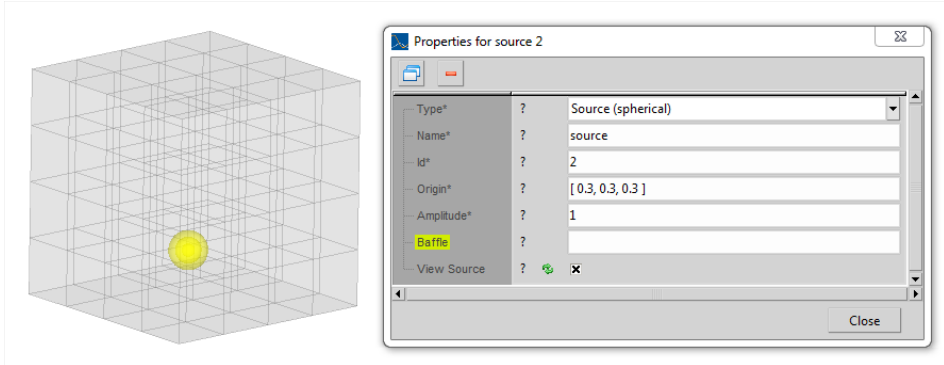

Figure 10.75: Visualization of a spherical acoustic source
- Acoustic sources, including cylindrical source, planar source and spherical source. The visualization is controlled by a tick box in the source's property window. Figure 10.75 shows the visualization of an acoustic source;